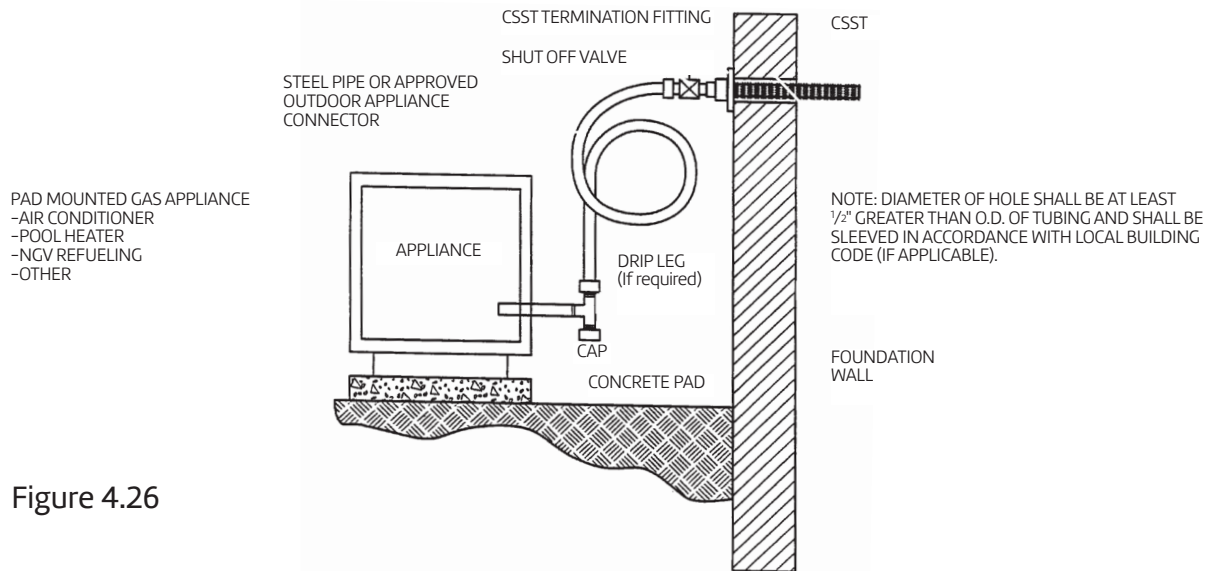

Figure 4.26
**C. Pad Mounted Gas Appliances** – Gas appliances mounted on concrete pads or blocks, such as heat pumps, air conditioners, pool heaters and NGV refueling systems, shall be connected to the WARDFlex system at a termination fitting using either rigid pipe or an approved outdoor appliance connector as shown in Figure 4.26. Pad mounted equipment (in most cases) is considered “fixed” if not moved for cleaning, maintenance, etc. (i.e. A/C units).